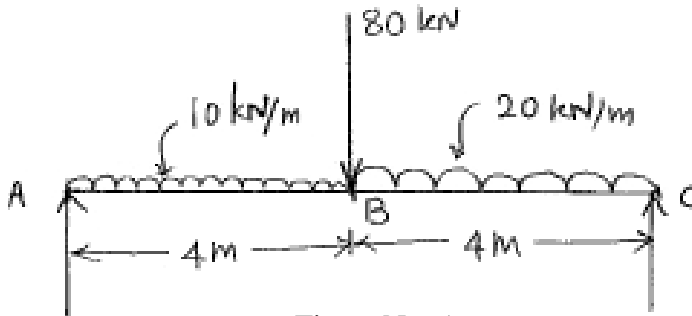

Figure No. 5
- ii) Draw SFD and BMD with calculations for the beam shown in figure No. 5.